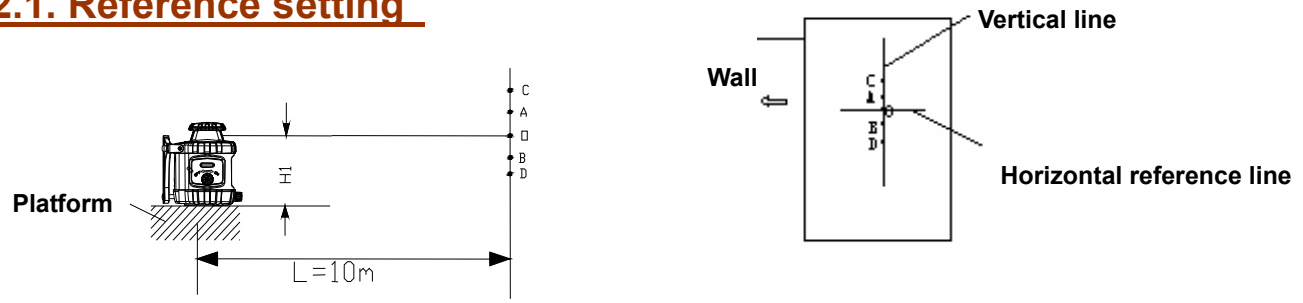

Figure 24
- (1) As shown in figure 24, set up a platform 10m away from a wall. The platform should be stable and flat, and level within 6'.
- (2) Using a water level to mark a horizontal reference line, and also draw a vertical line on the wall. Then take their cross point on the wall as point O.
- (1) As shown in figure 24, make one side with X direction marked on the top cover of the instrument face to the wall. Power on and take the cross point of rotating laser line and the vertical line on the wall as point A.
- (2) Turn the unit 180 degree, i.e. make X-direction face to the wall. Take the cross point of rotating laser line and the vertical line on the wall as point B.
- (3) Make the Y direction of the instrument face to the wall, and take the cross point of rotating laser line and the vertical line on the wall as point C.
- (4) Turn the unit 180 degree again, i.e. make the Y direction face to the wall. Take the cross point of the rotating laser line and the vertical line on the wall as point D.
- (5) Measure the vertical distance between point O and one point among points A, B, C, D. If the vertical distance is more than 3mm, it means the accuracy is beyond tolerance and it needs to make some adjustment.